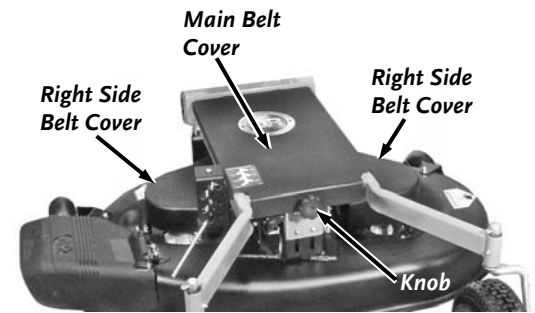

Figure 12
1. Remove the Front Knob and the Main Belt Cover (**Figure 12**)